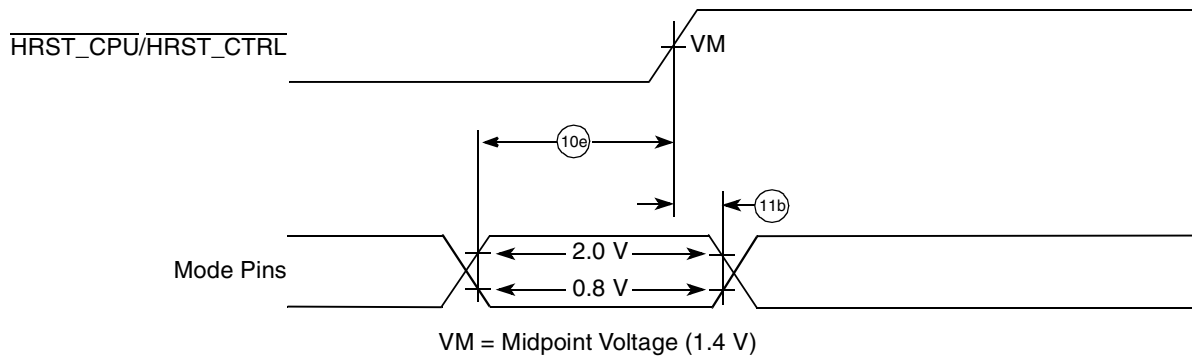

Figure 13. Input Timing Diagram for Mode Select Signals
- All mode select input signals specifications are measured from the TTL level (0.8 or 2.0 V) of the signal in question to the $\text{VM} = 1.4$ V of the rising edge of the $\overline{\text{HRST_CPU/HRST_CTRL}}$ signal. See Figure 13.
Figure 13 shows the input timing diagram for mode select signals.